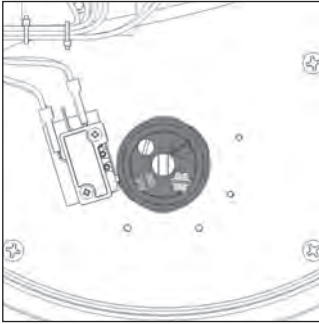

**Figure 7.** Indicator rotor pulled up from the indicator shaft.
1. Remove the indicator rotor by pulling away from the indicator shaft as shown in Figure 7.